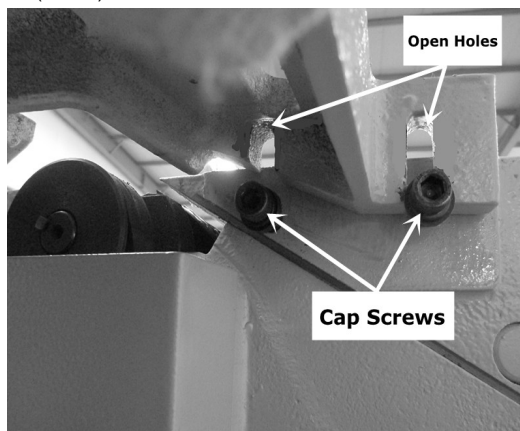

Figure 4
3. Line up two open holes on the fence carriage with the two cap screws. (Fig. 4)